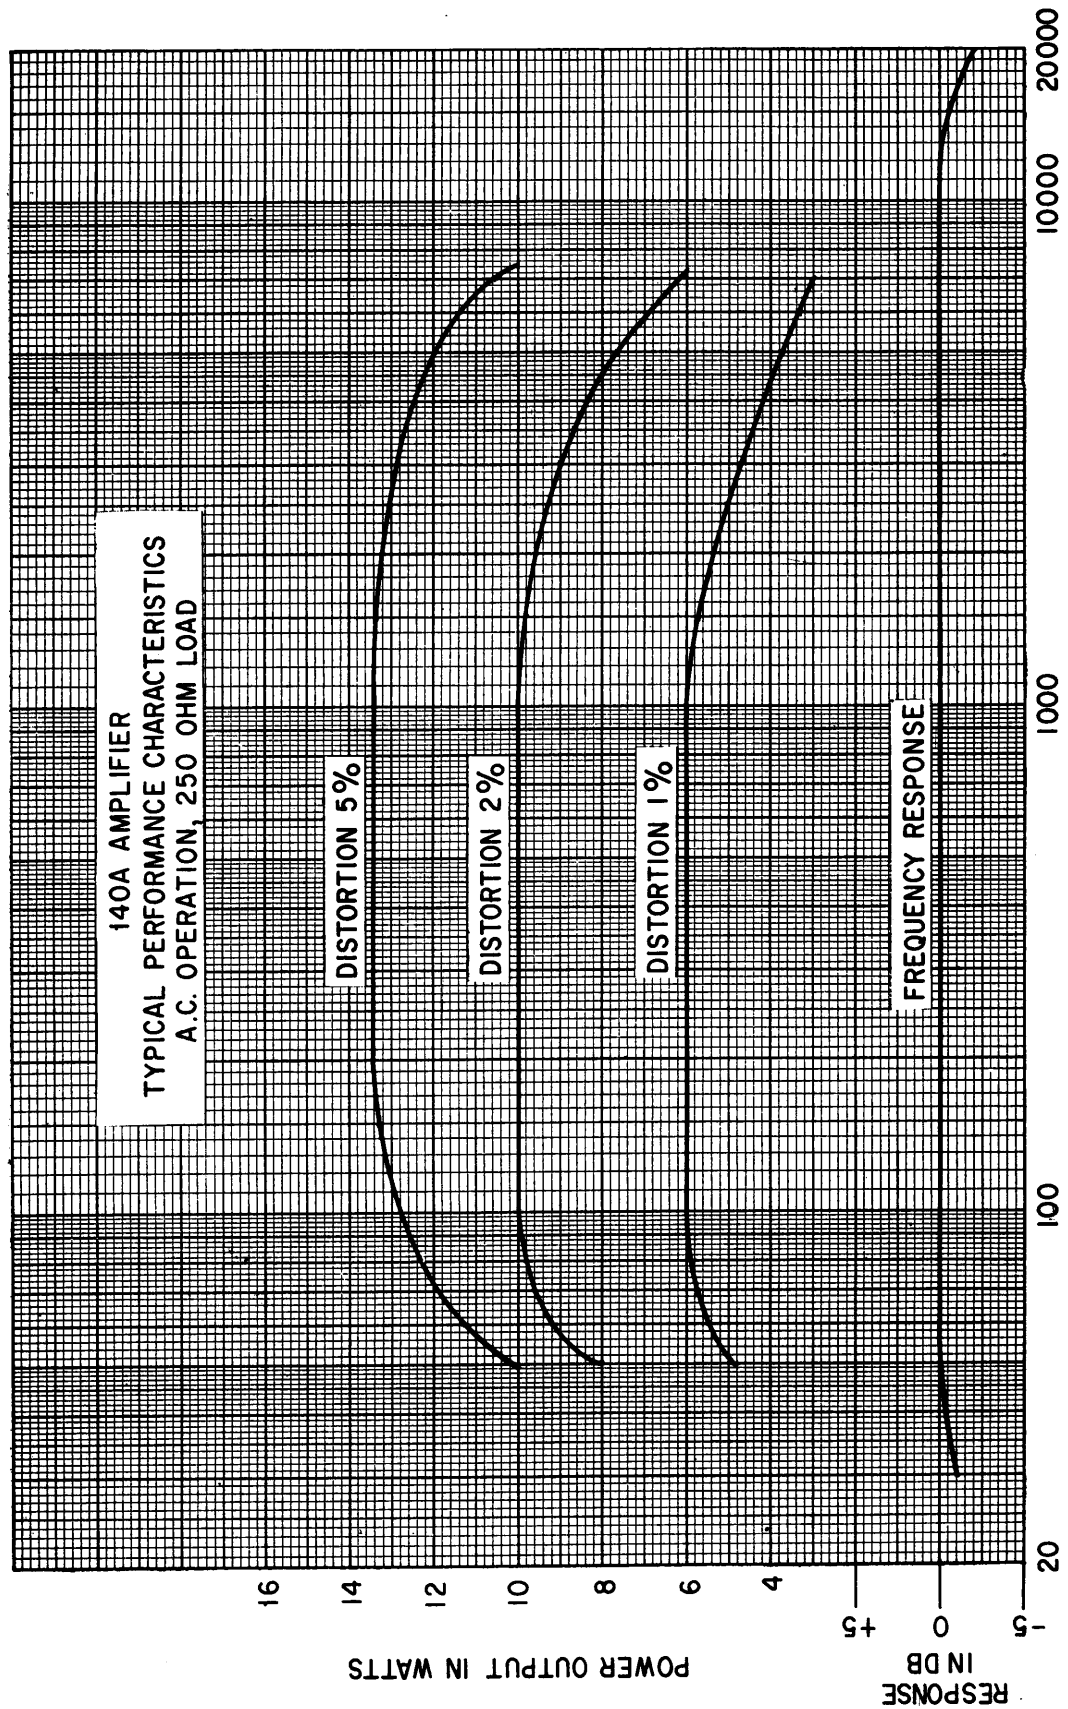

Fig. 6 — Frequency in Cycles Per Second
2.22 Typical performance characteristics of this amplifier are shown in Fig. 6.